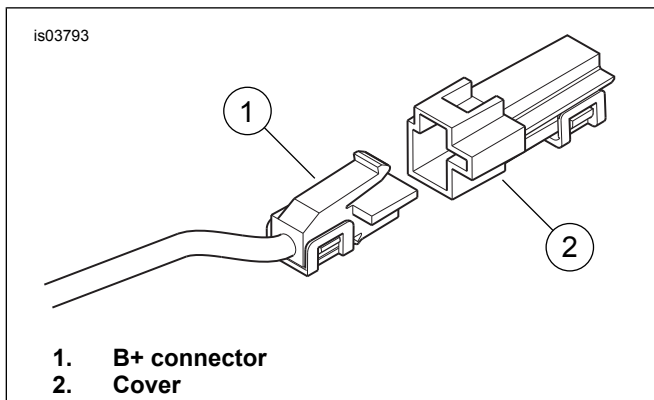

Figure 6. B+ Connector
8. Cut the speaker and amplifier harness (5) red and orange/white wires to a suitable length to easily reach the sealed splice connectors on the relay. Splice and seal the red and orange/white wires to the sealed splice connector (6) on the red wire of relay terminal 3.
9. Select the sealed splice connector (7) on the free end of the **red** wire coming from relay terminal 5. Splice the red wire on one end of the in-line fuse holder (8) to the red wire of relay terminal 5.
10. Splice the opposite end of the in-line fuse holder to the 12V adapter wire (9) with the blue sealed splice connector (10) from the hardware pack.
11. See Figure 6. Locate the B+ (battery positive) connector (1) on the main electrical harness under the seat (a red wire with an unused gray connector). Remove the cover (2) from the B+ connector.